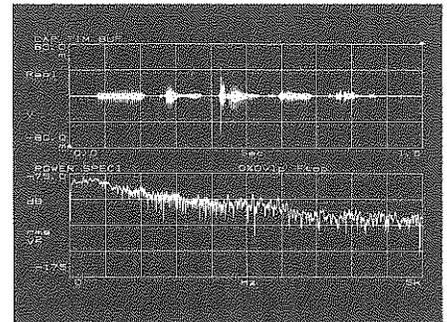

Figure 6-3
- 5. Start** Press the yellow **START** key. The power spectrum for the first 2048 points in the capture buffer is displayed in the lower trace, as shown in Figure 6-3.